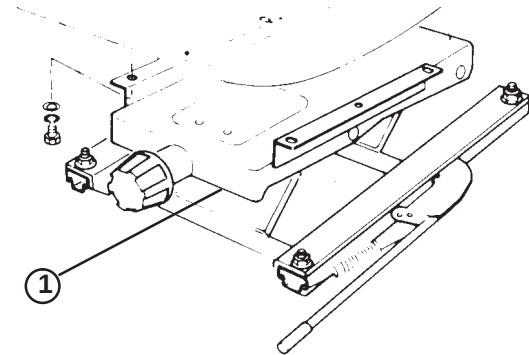

Figure 7
- 4. Secure seat suspension to seat mounting plate with (4) flange locknuts (Fig. 7).
- 5. Mount seat to seat suspension with (4) capscrews, lockwashers and flatwashers (Fig. 7).